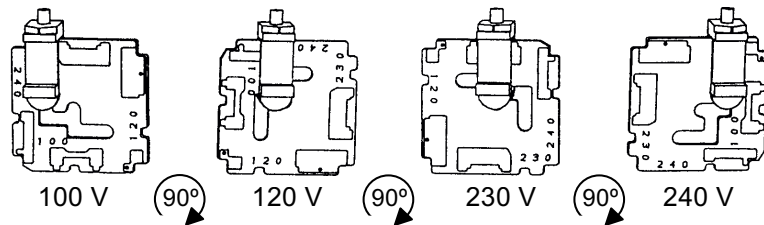

Figure 3-4. Voltage selector card positions
4. Orient the selector card so that the desired input voltage is readable at the bottom (see Figure 3-4). Then orient the indicator pin to point up when the desired voltage is readable at the bottom, with the indicator pin assembly seated in the notch on the board edge.